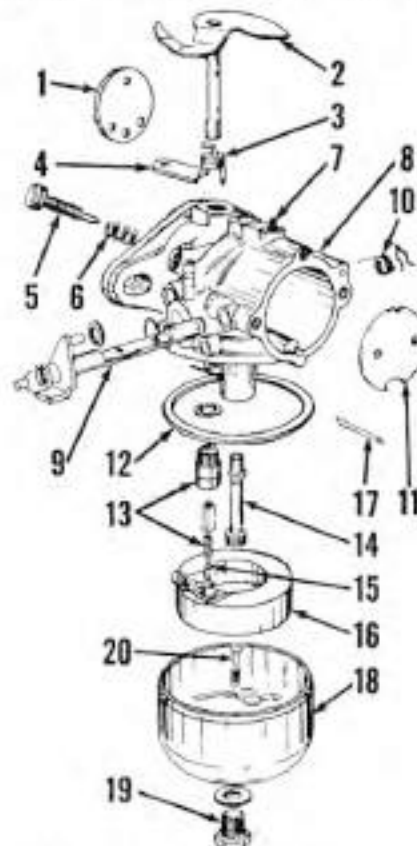

Fig. Mc101 — Exploded view of Carter carburetor used on some models. A fixed main jet is used.
Carter Type N (After 1959): Refer to Fig. Mc101. Carburetor is provided with an idle mixture needle (5). High speed performance is determined by the adjustment of the metering rod (7). Both carburetors on two cylinder models or the three carburetors on three cylinder models must be carefully adjusted for equal performance. Clockwise rotation of the idle needle leans the mixture.